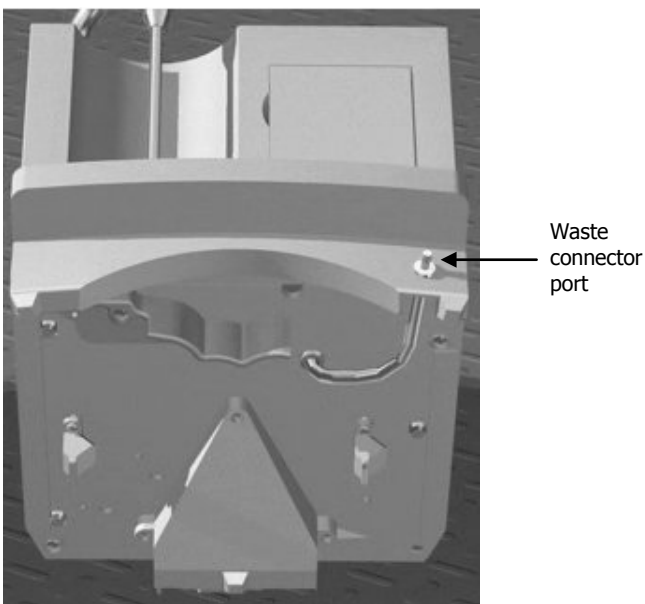

Figure 4 Waste connector port
1. Push one end of the waste tubing onto the waste connector port below the accessory shelf, as shown in Figure 4.